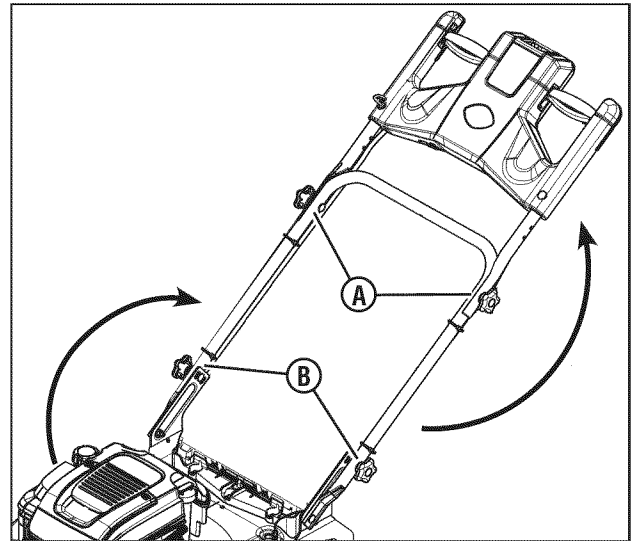

Figure 2: Raising the handle assembly
1. Loosen, but do not remove, the knobs (A, Figure 2) on both sides of the upper handle.
3. Remove the handle knobs, washers and carriage bolts from the lower handle (B).